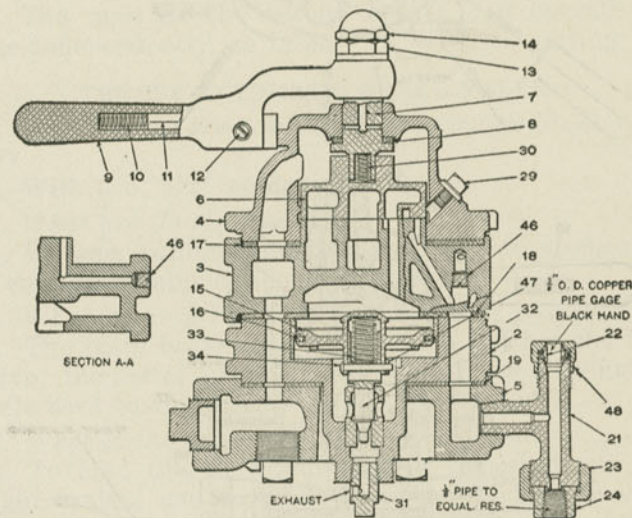

Fig. 437. H-6 Automatic Brake Valve with Collapsible Equalizing Piston.
A. This brake valve is shown in Fig. 436 with solid equalizing piston, and in Fig. 437 with collapsible piston. For release, air from the main reservoir passes through *a* in the rotary valve and *b* in the valve-seat into the brake pipe. Rotary-valve port *j* and valve seat port *g* coincide, so that main reservoir air passes into the chamber *D* and above the equalizing piston. This would